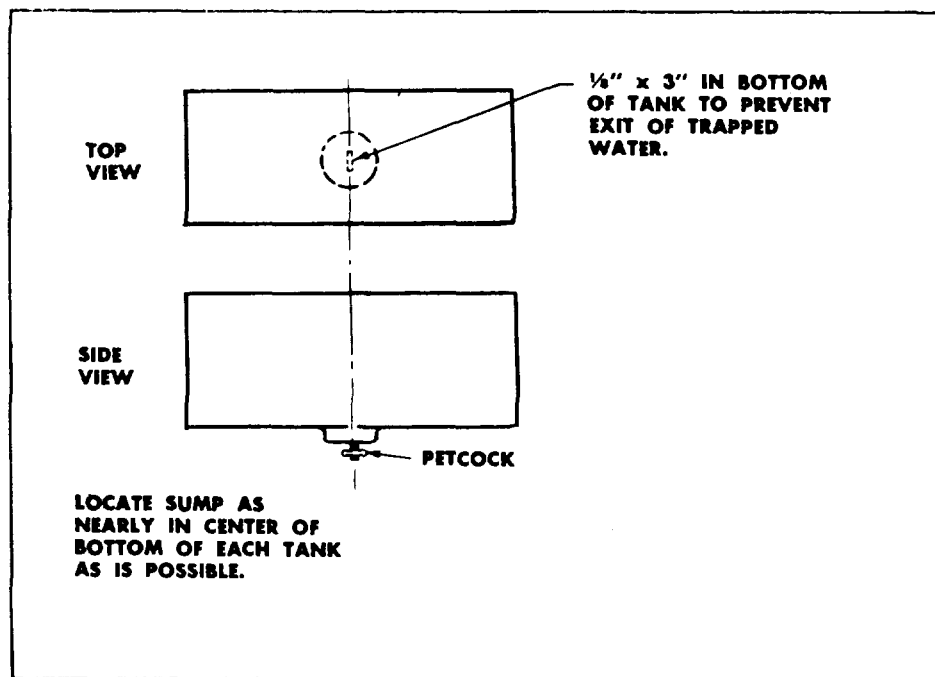

Figure 2-14. Recommended drain sump in tank
6. A sump should be provided in the tank to drain sediment and water. See Fig. 2-14.